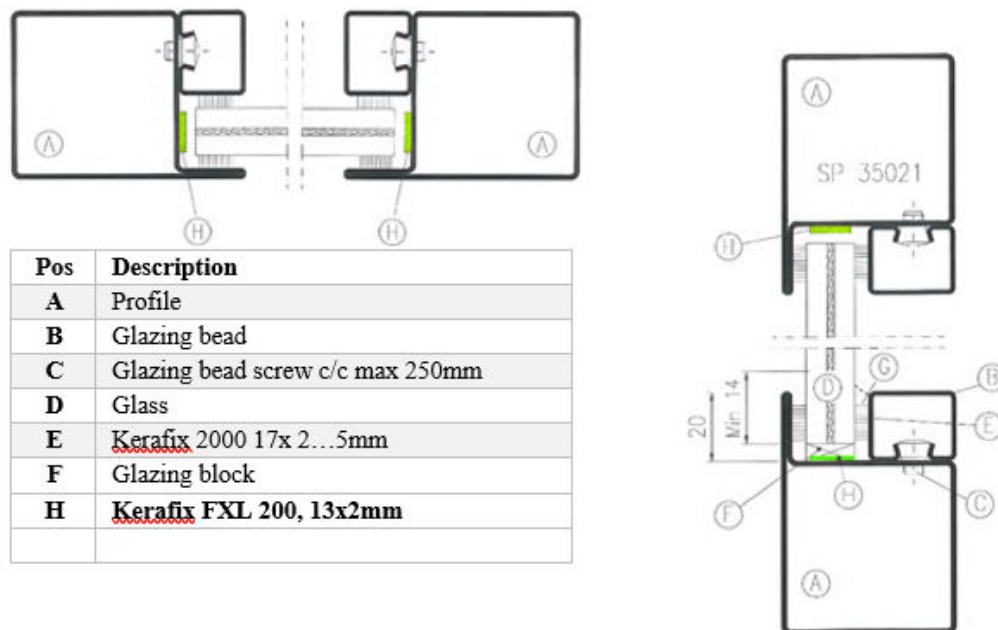

FIGURE 3
- During the installation of glasses (see Figure 3) make sure that the glasses are not broken and there are no cracks or other damages on them. Damaged glasses may be installed with the temporary purpose of closing an opening. In that case the product does not comply with the previously stated requirements and warranty conditions.
- If necessary, remove the fastening screws (C) from panel (A), in order to fit the glass in the opening.
- Place two glazing blocks (F) under the glass in both corners' ca 50-200mm distance from the profile corners.
- When using fire resistant glass, place self-expanding gasket Kerafix FXL 200 around the perimeter of the glass on the profile. (H shown on Figure 3). Do the cut-out from the gasket for the glazing distance blocks.
- Install the glazing bead screws c/c max 250 (shown as C on Figure 3)